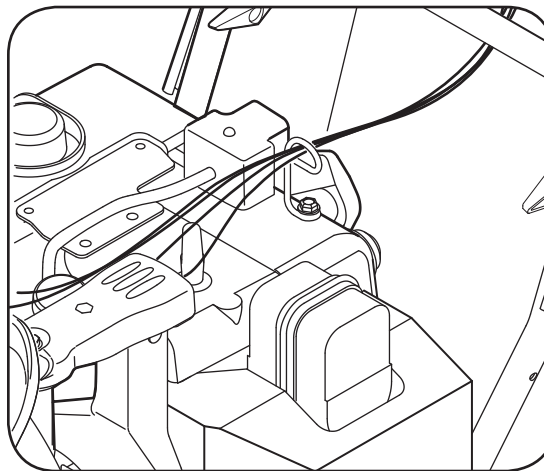

Figure 6
6. Check that all cables are properly routed through the cable guide on top of the engine. See Figure 6.